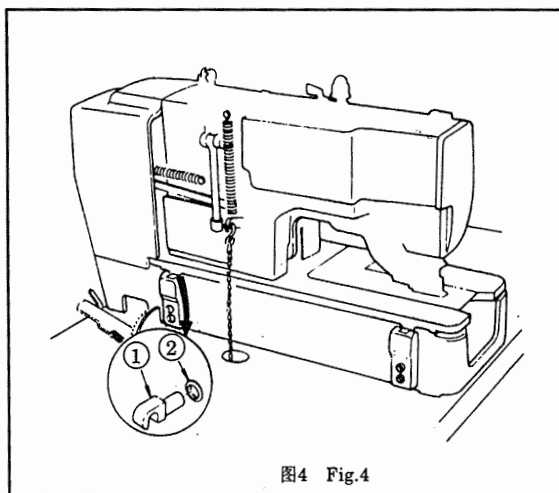

图4 Fig.4
3.机头的安装 图4
3. SETTING UP THE MACHINE HEAD Fig.4